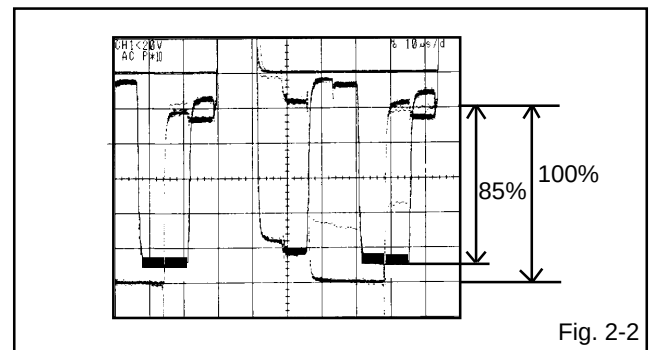

Fig. 2-2
6. Press the VOL. UP/DOWN button on the remote control until the red color level is adjusted to $85 \pm 10\%$ for the white level. **(Refer to Fig. 2-2)**